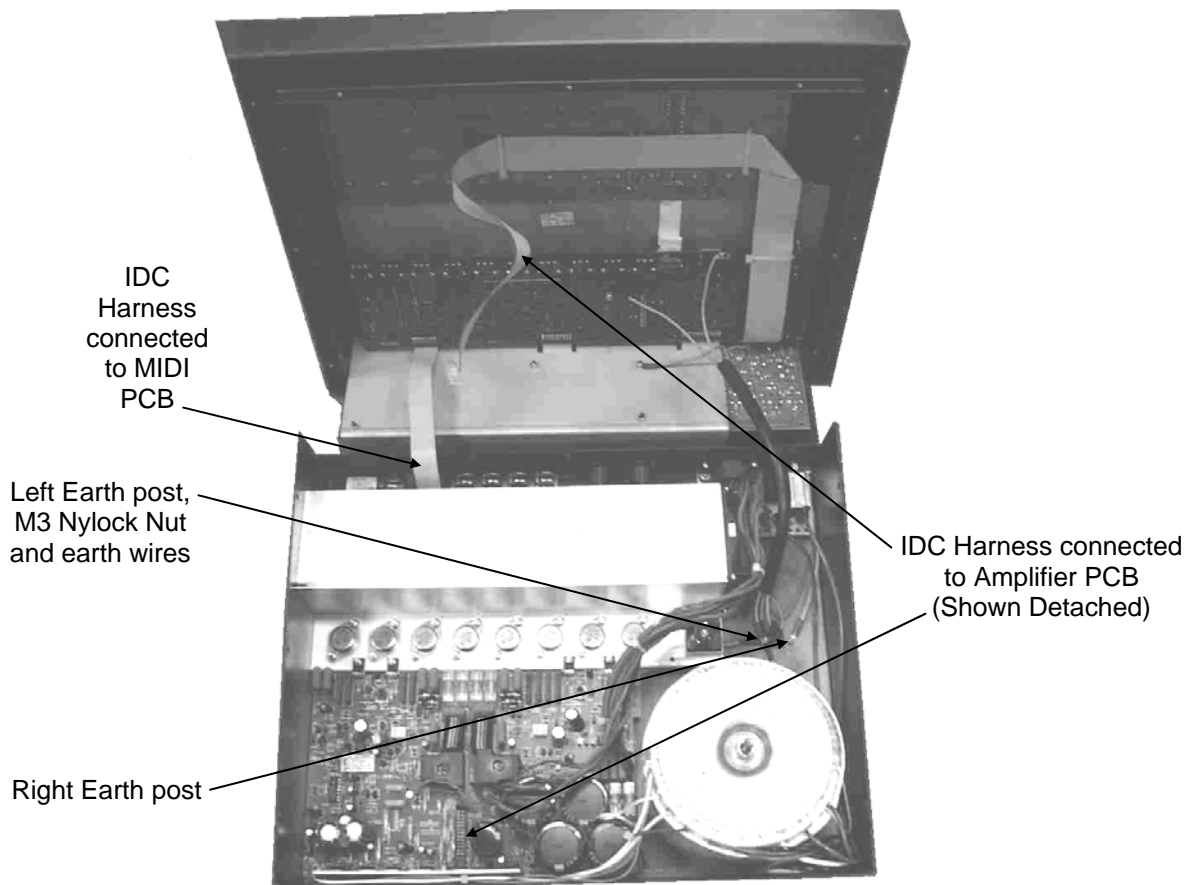

fig.3
- 3) Remove the 2 IDC Harnesses from the MIDI and Amplifier PCB respectively (see fig. 3)
- 4) Remove the M3 nylock nut and earth wires (see fig.3)
- 6) If replacing the Amplifier circuit board assembly then de-solder the transformer wires and green earth wire from the left earth post (see fig.3) at the PCB.
- 3) Remove the connecting earth wire to the MIDI circuit board from the left earth post (see fig.3)